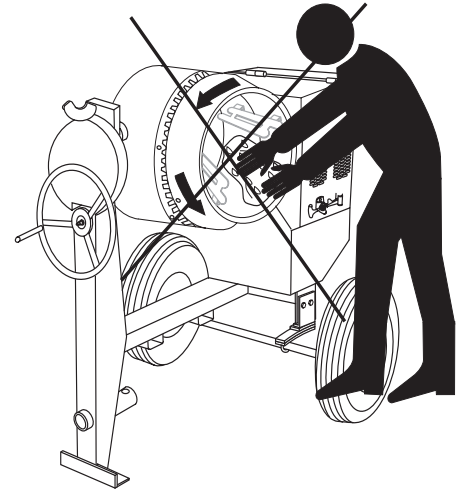

Figure 21. Filling Mixing Drum
3. Placing the shovel all the way inside the drum (Figure 21) will cause the shovel to strike the blades. This condition will make the shovel rotate, and could cause injury to personnel. **NEVER** place hands inside the mixing drum while it is rotating.